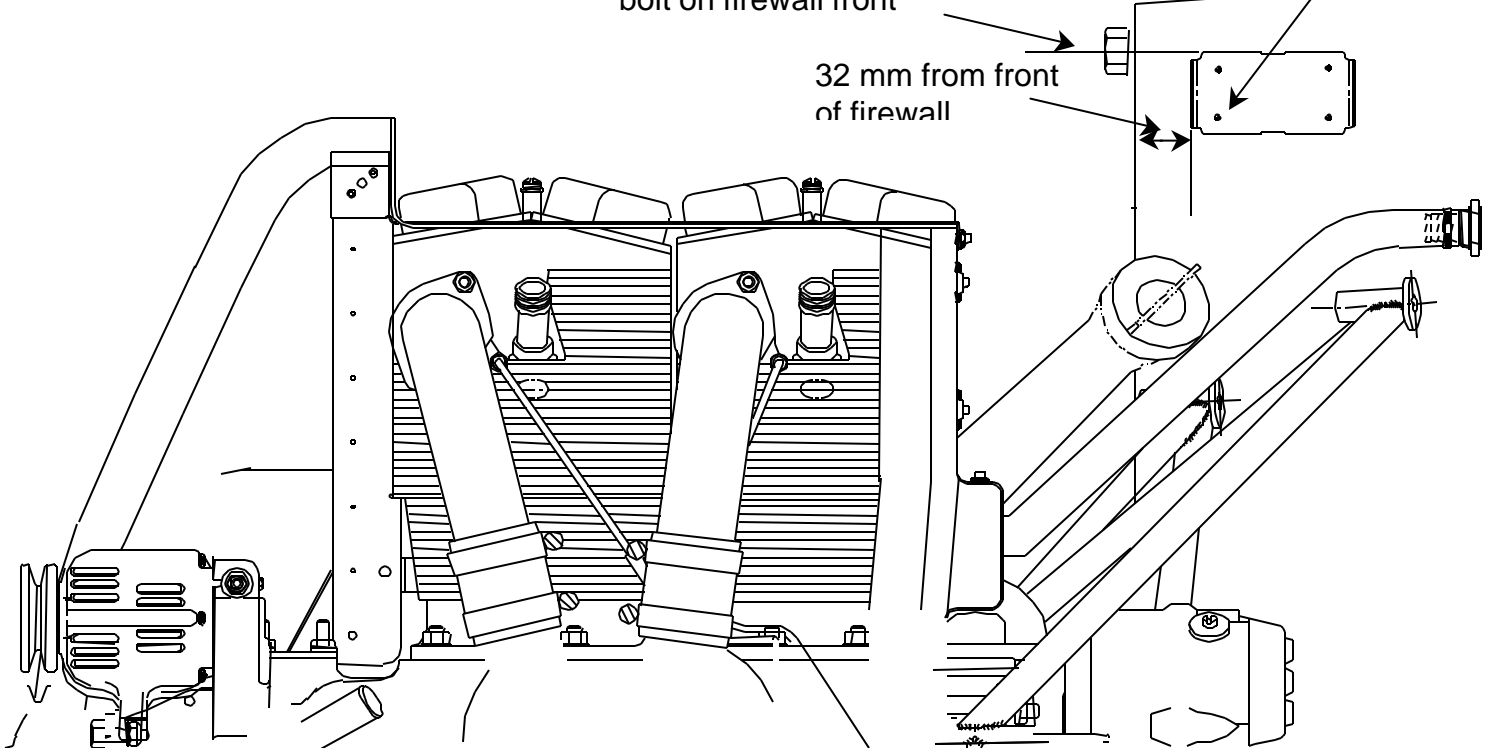

Figure 2
- 10.6** Locate battery bracket as shown in Figure 2. Mark holes to be drilled using the bracket as the template. Ensure that the large end of the bracket faces aft.
- 10.8** Rivet the battery bracket, complete with the clamp, to the firewall as follows. Observe that the bracket large end faces aft, the gear portion of the clamp is positioned on the outboard side of the battery facing up see figure 2, and that the clamp is centered in notches on bracket.
- 10.9** Position the rubber pad on the bracket. Install the battery with the terminals towards the front (figure 2), tighten battery clamp.